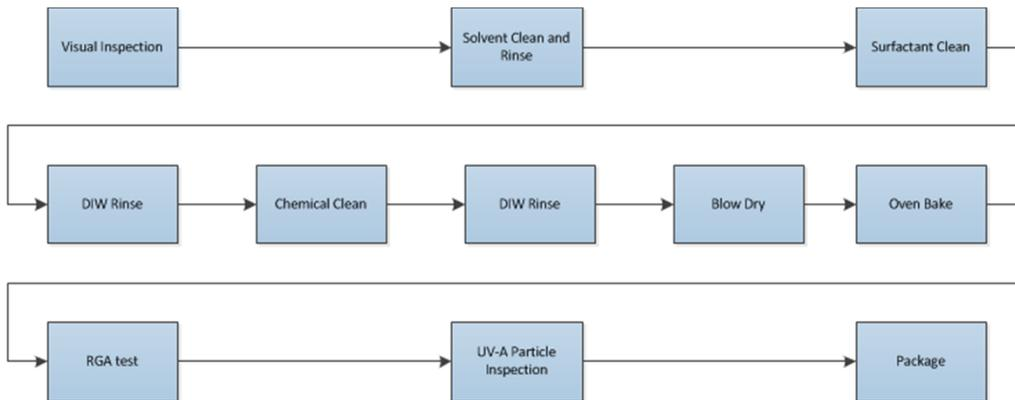

Figure 4a
- Figure 4a and 4b depicts Clean-1 and Clean-2 processes used by QuantumClean® to clean the suppliers parts prior to RGA scans